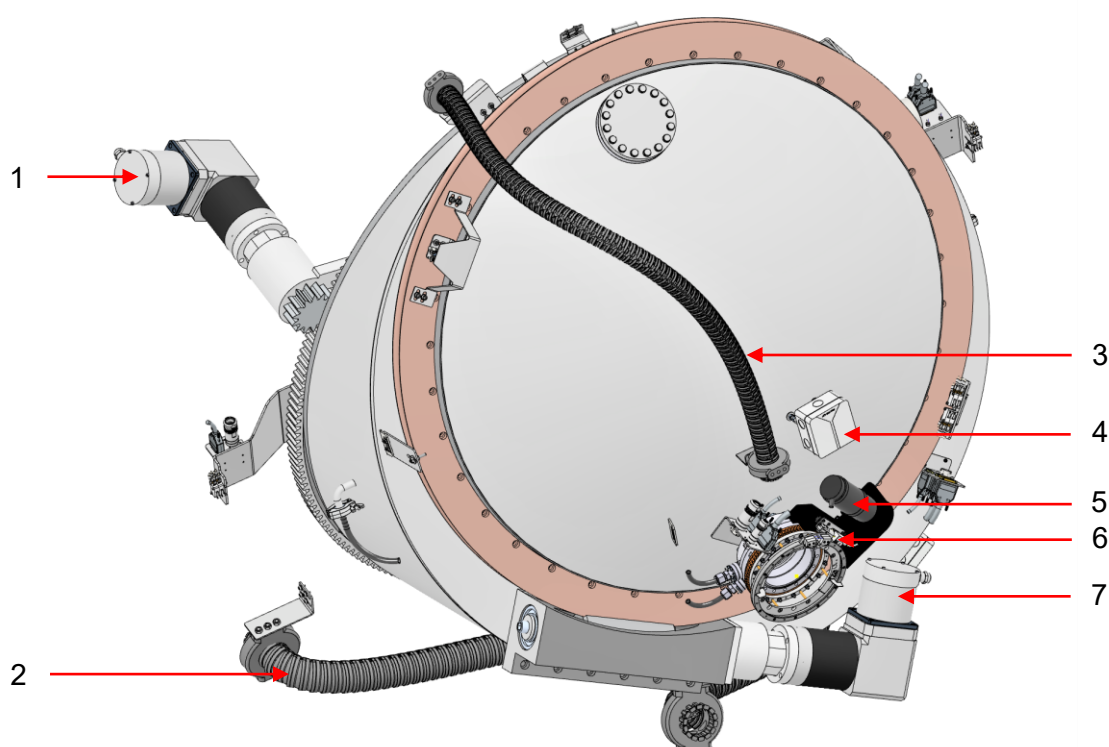
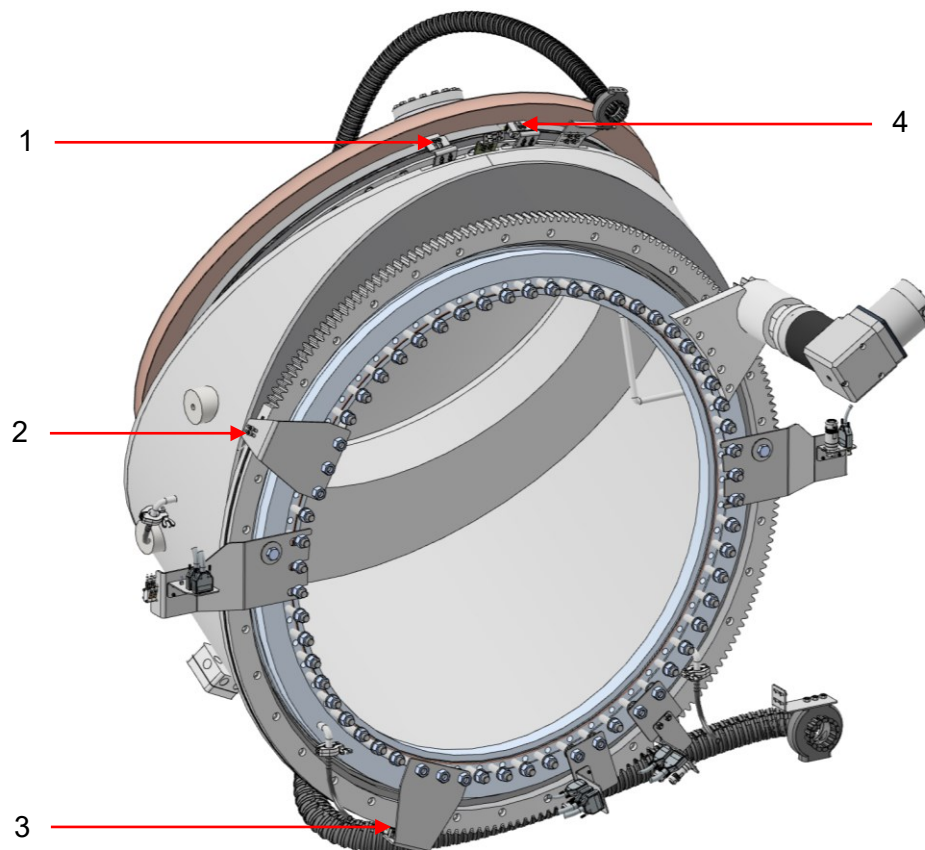
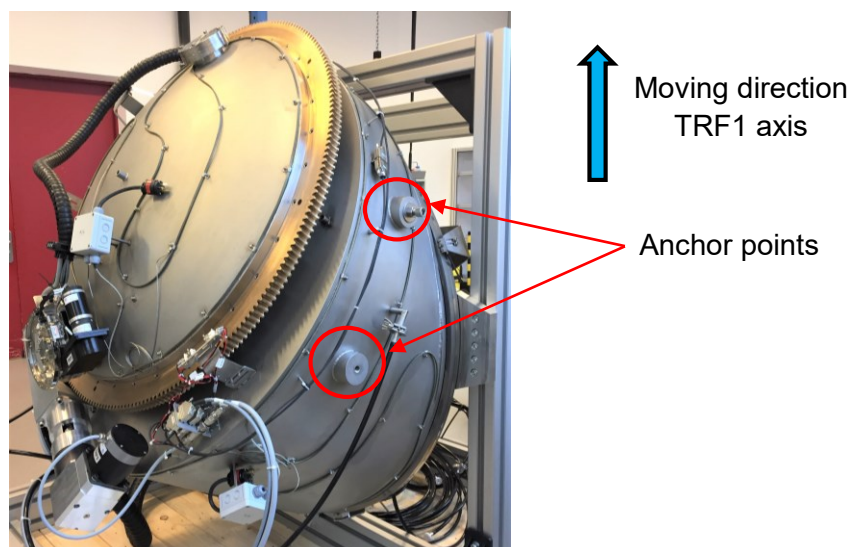

Figure 12: Triple rotation flange
Figure 13: Triple rotation flange
Figure 21: Anchor point at the TRF before moving the TRF1 axis by 90°
Figure 12 and Figure 13 show the triple rotation flange which will be used as exit flange at the SIX spectrometer sample chamber. For detailed description and assignment of limit /kill switches, collision switch, motors and encoders please refer to the assembly drawing 03-1356-00.
6. Connect the TRF1 motion axis (#1 in Figure 12) and move it by 90° so that the anchor points at the TRF are located at the top, see blue arrow in Figure 21.
8. Secure the TRF with the help of a crane using the anchor points shown in Figure 21. Carefully bring the lifting gear under light tension.